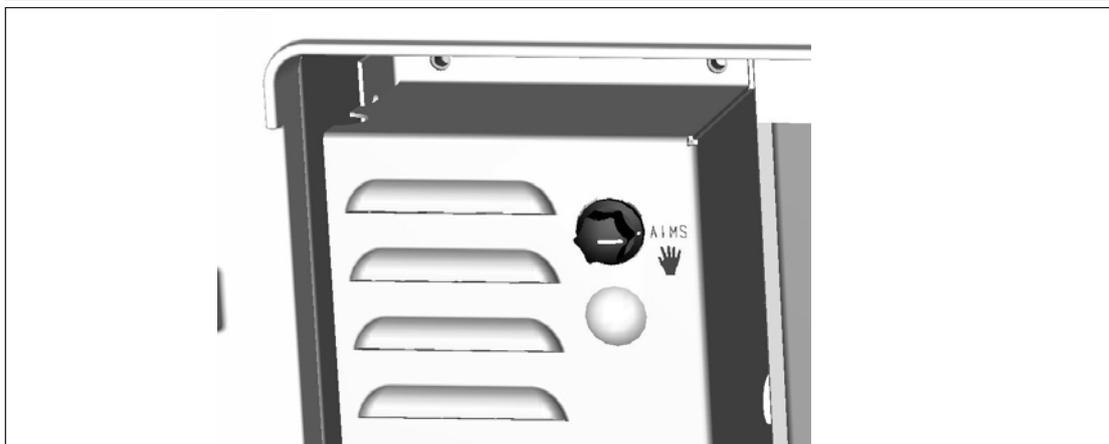

Fig. 18
2. Set the control knob on the base unit to manual  (See Fig. 18)